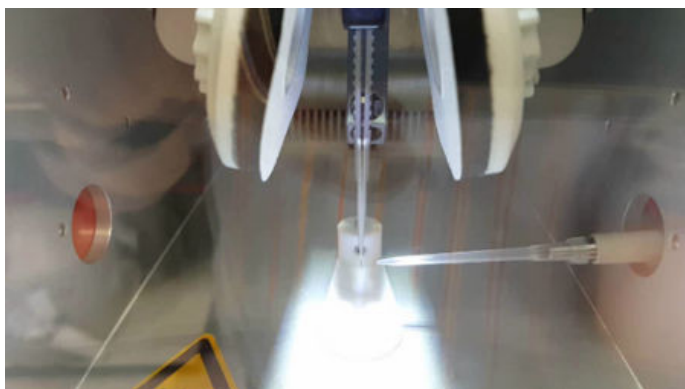

Figure 10 Sample application on the carbon film side of the grid.
2. Click **Place New Grid** and mount the tweezers with the EM grid to the Vitrobot™. Orient the grid so the support carbon layer faces the side (left/right) the sample is applied (Fig. 10).
6. Click **(Start) Process** or use the foot pedal to lower the tweezers slightly to allow easier application of a sample to the grid through the side entry port using a pipette (Fig. 10). The sample must be applied to the carbon film side of the grid and can be applied from either side of the climate chamber.